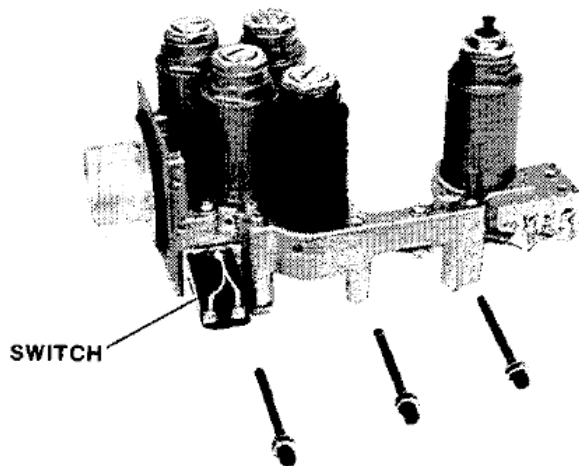

Figure 5-23. Solenoid Pack and Receiver
29. Solenoid Pack Disassembly (Figures 5-23 and 5-24).